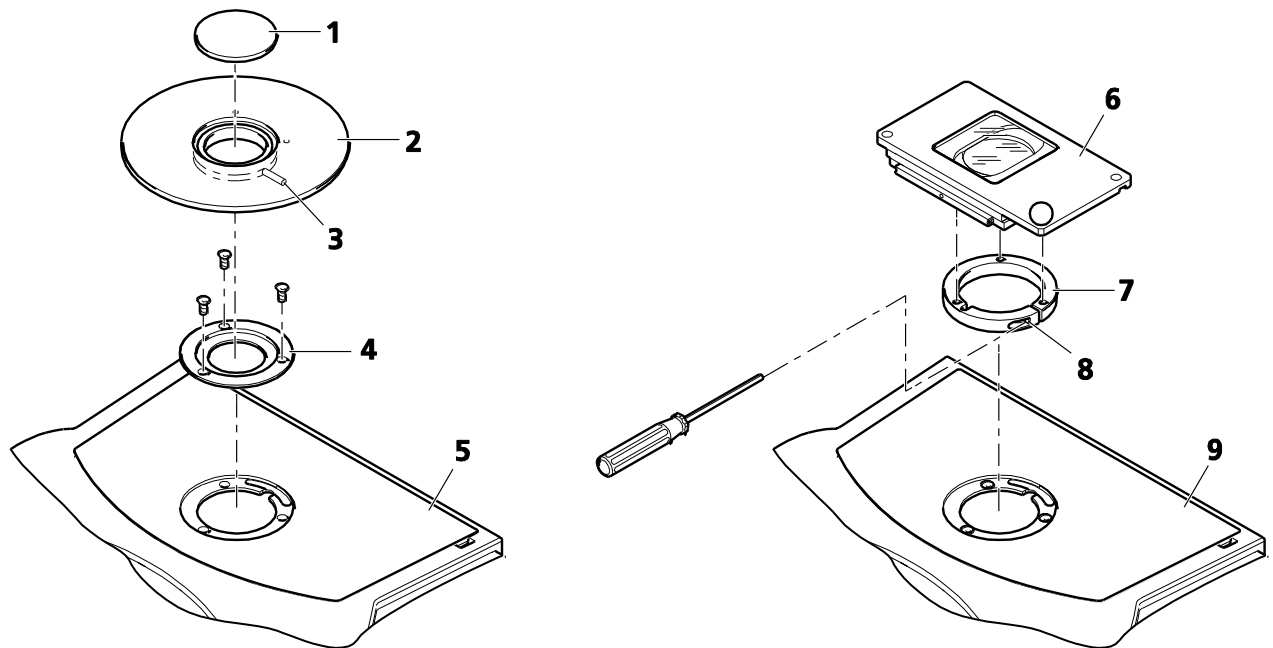

Fig. 8 Installing the stage
Stages with 84 mm interface should be fastened to the stand base by means of the 84/120 mm stage adapter (Fig. 8/4).
- Unscrew three short Allen screws (SW 3) from insert plate (Fig. 8/5).
- Use three longer Allen screws (SW 3) to screw down the stage adapter (Fig. 8/4) hand-tight through the insert plate.
- Put the stage (Fig. 8/2) onto the stage adapter and align it.
- Throw eccentric clamping lever (Fig. 8/3) over to clamp the stage in the stage adapter.
- Put the round 84 mm plate (Fig. 8/1) into the stage interface.
Stages with 120 mm interface (Fig. 8/6) should be fastened to the insert plate (Fig. 8/9) by means of the stage-clamping ring mounted to the stage (Fig. 8/7). Do not remove the stage-clamping ring.
- Put the stage with installed stage-clamping ring (Fig. 8/6 and 7) onto the insert plate (Fig. 8/9) and align it.
- Clamp the stage-clamping ring in the insert plate by turning the Allen screw (SW 3) (Fig. 8/8) clockwise.